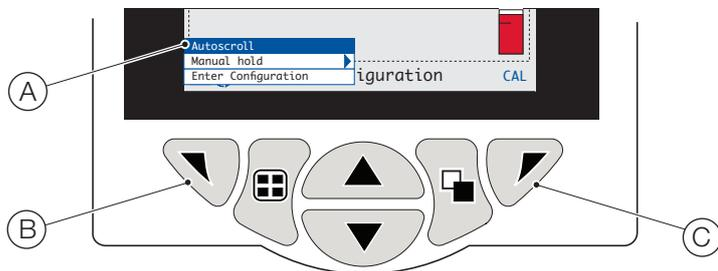

Fig. 6.2 Operator menus
The transmitter has 4 modes of operation – all modes are accessed from the *Operator* menu – see Fig. 6.2.
Referring to Fig. 6.2, *Operator* menus (A) are accessed from any *Operating*, *View* or *Log* page by pressing the ∇ key (B).
When multiple wet-sections are fitted and, if *Autoscroll* is selected from the *Operator Menu* (see Fig. 6.2, page 27), the display scrolls through each available *Operator Page* consecutively.